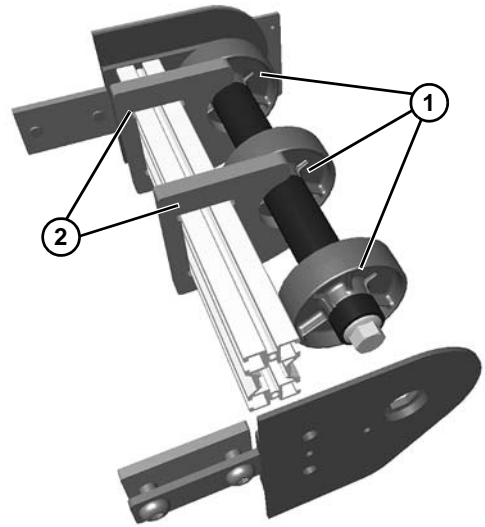

Figure 99
15. Install components reverse of removal, making sure idler pucks (**Figure 99, item 1**) and gap filler plates (**Figure 99, item 2**) are evenly spaced on assembly.